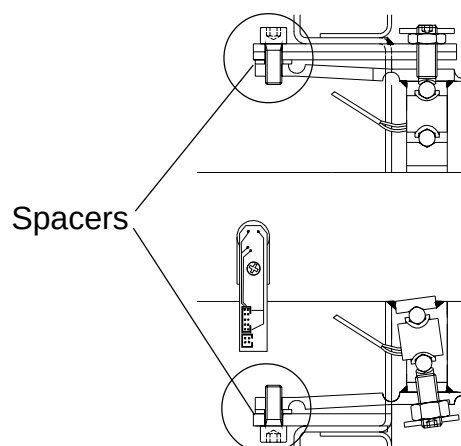

Figure 3-35
- Using 1/4" drive 6mm hex head SOT part # TMAM6E remove the six (6mm) hex bolts to the vibratory. Pay special attention of spacer placement. (Figure 3-35)